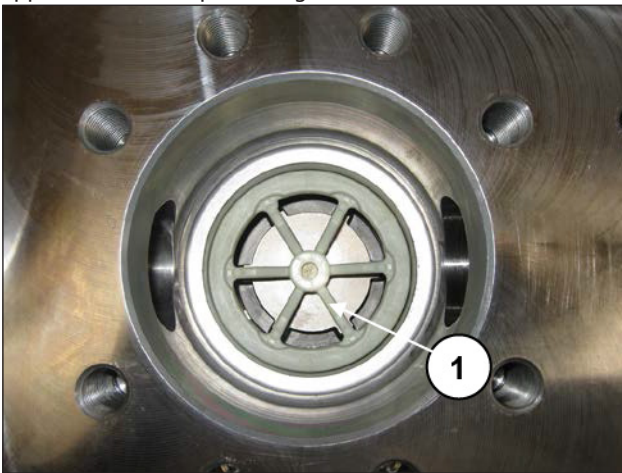

Fig. 183
The complete valve unit must be driven fully home and should appear as shown in pos. ①, Fig. 183.